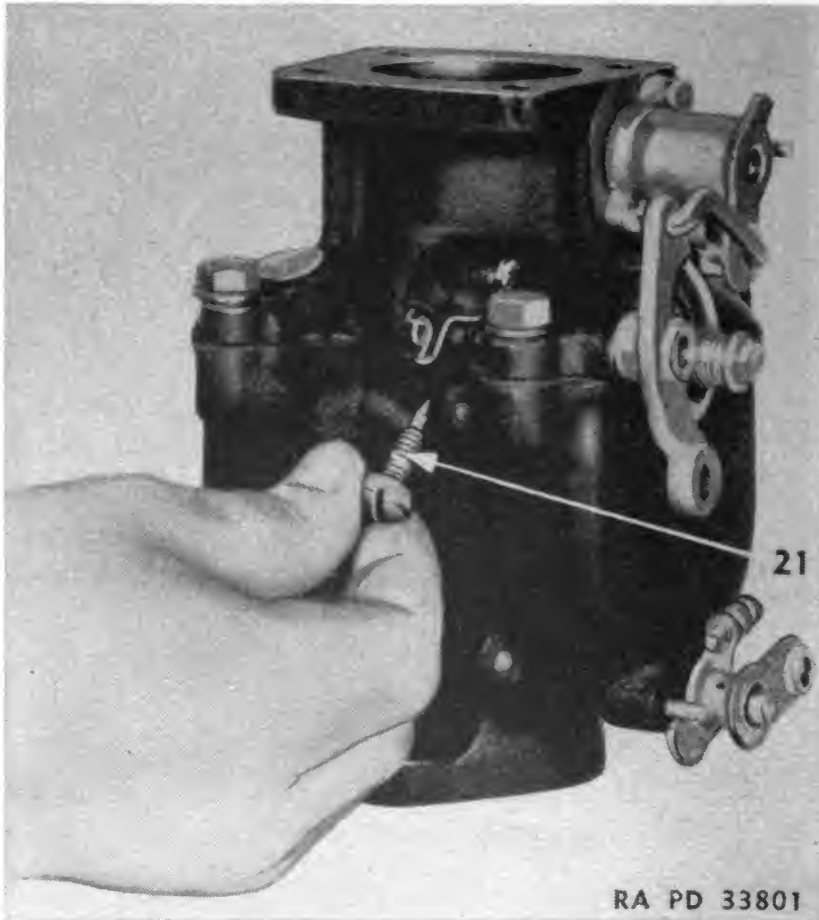

FIGURE 86.—Idle adjustment screw.
82. Idling jet.—The idle adjustment screw (21) (fig. 86) regulates the amount of air to be mixed with the fuel at the idling jet. The nonadjustable jet (19) (fig. 85) controls the amount of fuel taken from the compensator well. The fuel and air pass through the priming plug located in the carburetor throat adjacent to the idling position of the throttle shutter.